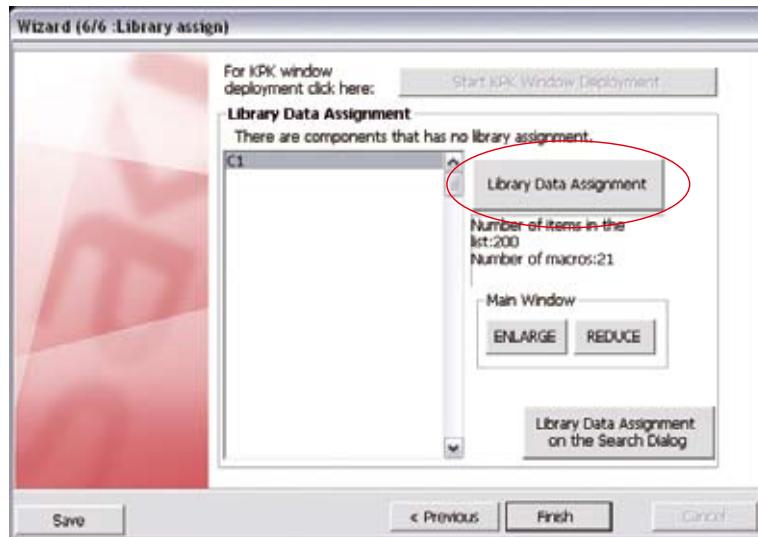

Figure 1-16 Wizard 6
Step34: After libraries are assigned to all components, press Finish in Figure 1-16. The window shown in Figure 1-22 appears and press **Save**. Check **Change destination to save inspection data** and specify the directory to save, if necessary.